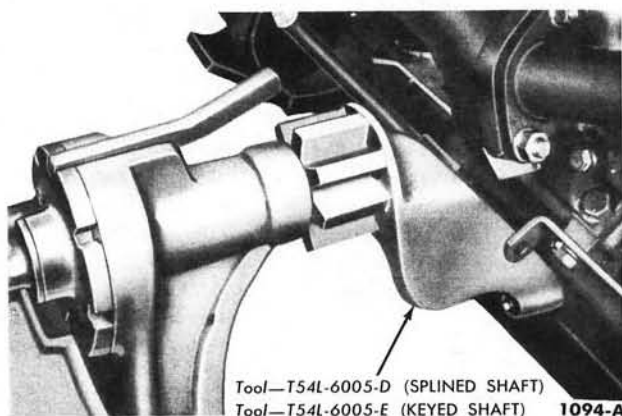

FIG. 9—Engine Mount—272 and 292 Engines
4. Support the transmission and attach the engine lifting hooks (Tool T53L-6000-B) and sling (Tool T53L-300-A). Raise the engine slightly, then carefully pull the engine from the transmission. Lift the engine out of the engine compartment. Install the engine on a work stand (Fig. 9 or 10). **On engines equipped with a ram's horn exhaust manifold, lower the engine on blocks and remove the right exhaust manifold and gasket. Remove the mount from the work stand and install it on the engine, then install the engine on the work stand.**
10. Remove the engine front support insulator bolts. Attach the engine lifting hooks (Tool T53L-6000-B) and sling (Tool T53L-300-A). Remove the engine and lower the engine on blocks and remove the right exhaust manifold and gasket. Remove the mount from the work stand and install it on the engine, then install the engine on the work stand (Fig. 9 or 10).